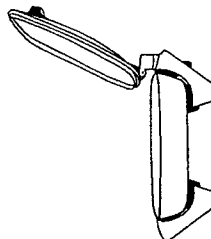

Fig. 2
- When raising and lowering the lid, always use the lid lifting handle (see Fig. 2). Note: Lid opens away from the steam.